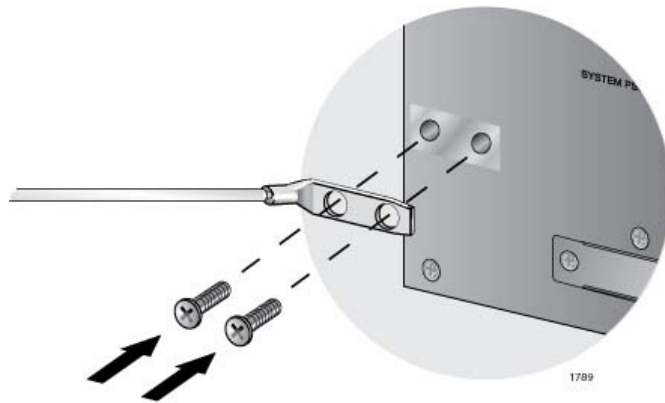

Figure 54. Installing the Grounding Lug and Wire
4. Install the grounding lug on the rear panel of the chassis, as shown in Figure 54.